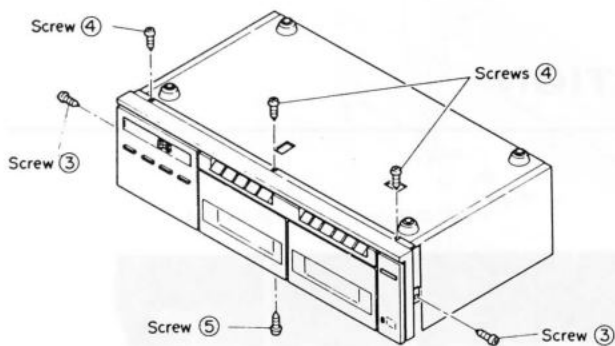

Fig.1-2
- 1) Remove the 2 screws ③ on either side of the front panel, the 3 screws ④ on the bottom, and the 1 screw ⑤ on the top, as shown in Fig.1-2.